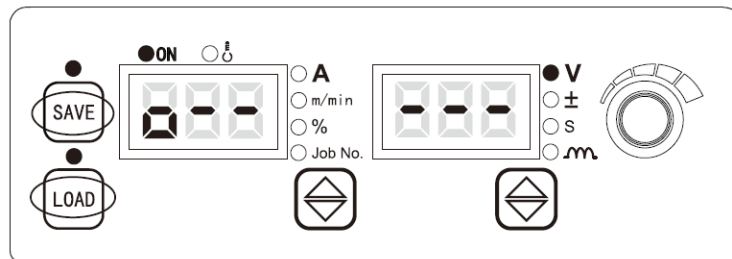

Figure 3-20 Setting a password
2. Press and hold the **SAVE**  button, the LED screen displays **0- - - -**. See Figure 3-20. Adjust the knob on the control panel of the welder and enter the password character by character. Then, press the **LOAD**  button.